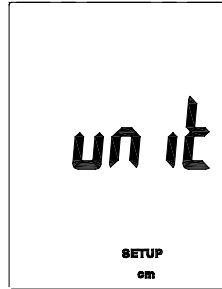

Fig. 2
2. Press **Avg/Rec** button to access the units; "cm" will appear on the display (Fig. 2).